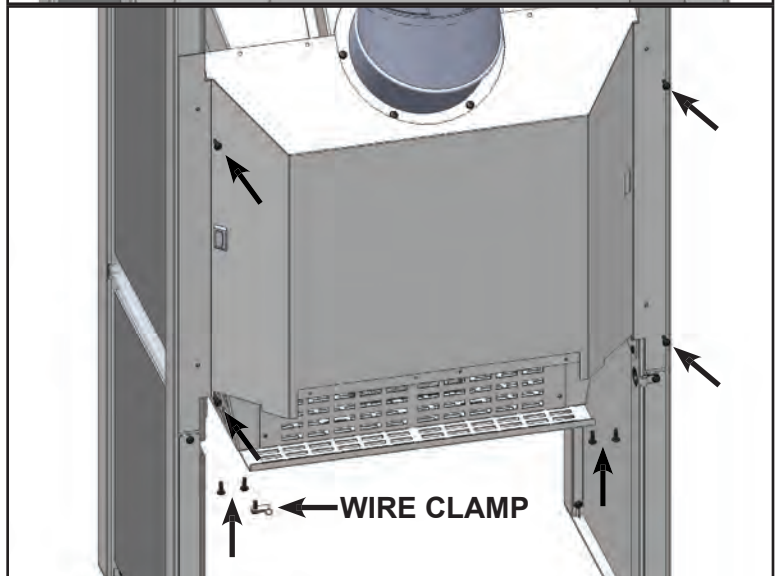

Fig.16
4. Unscrew outer rear shield from appliance (9 screws). Be sure to undo wire clamp before attempting to remove the shield. **(Fig.16)**